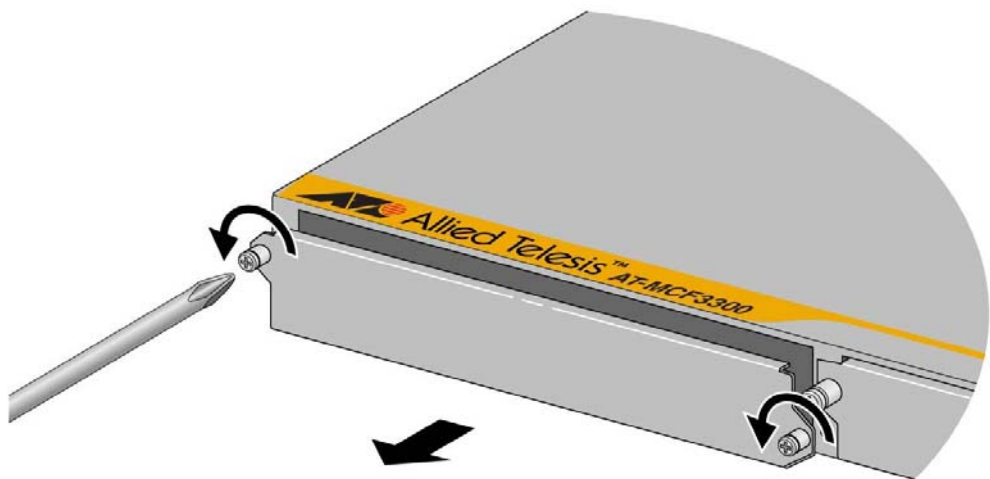

Figure 25. Removing a Blank Cover from a Media Converter Slot
2. If the selected slot has a blank cover, loosen its two captive screws with a cross-head screwdriver and remove it from a media converter. The example in Figure 25 shows the removal of the blank cover from slot 1.